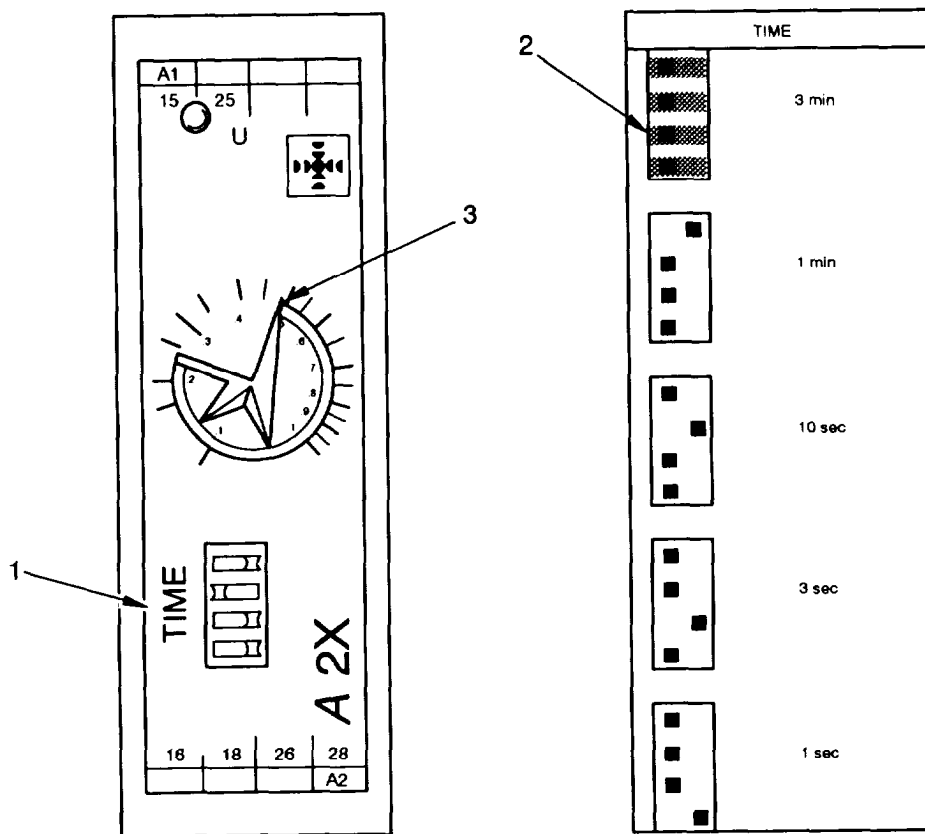

Figure 5-34 Time Relay K107
2. Set time relay K107 (6) to switching time time1 = 108 seconds and time 2 = 60 seconds:
On front of time relay K 107 (6), use TIME DIP switches (1) to set a time window of 3 minutes as shown in figure 5-34.
On front of time relay K 107 (6), use TIME DIP switches (1) to set a time window of 1 minutes as shown in figure 5-34.